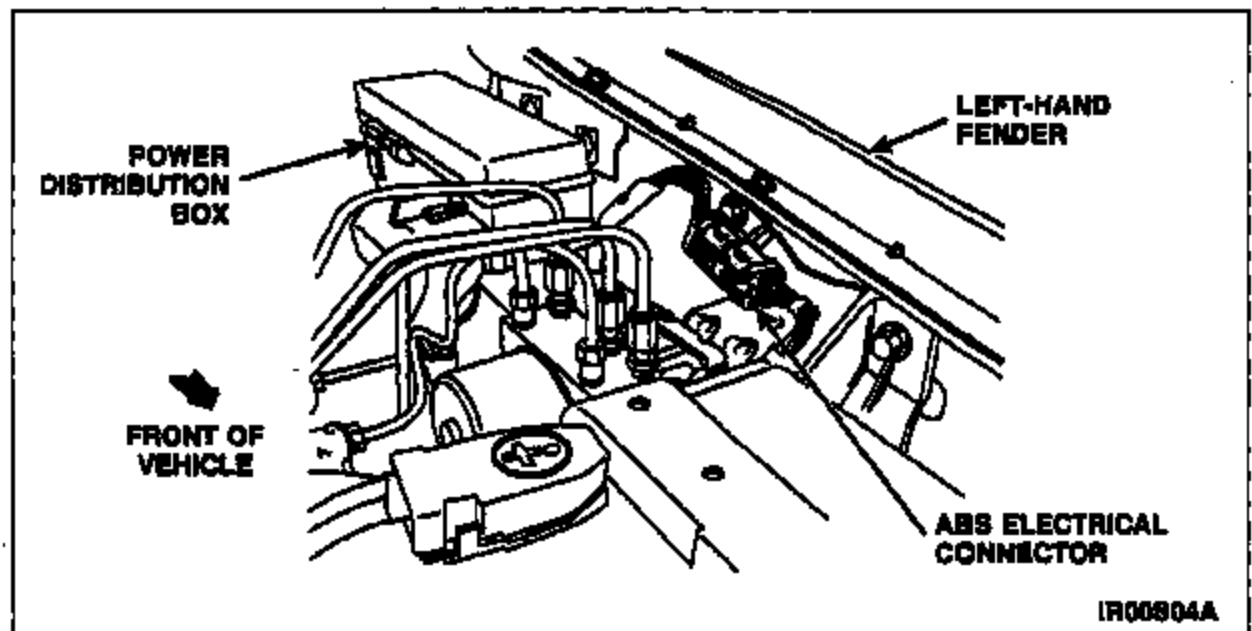

FIGURE 1
2. Disconnect the ABS electrical connector located on the left-hand fender. See Figure 1.